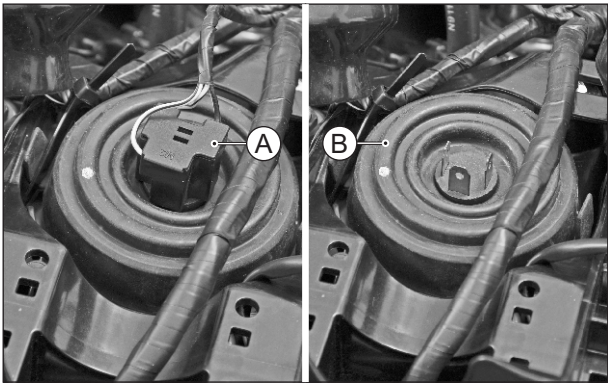

Fig. 5.48
- Pullout the socket head lamp (A) from head lamp bulb and dislocate the dust cap (B) of head lamp assembly. (Fig. 5.48)